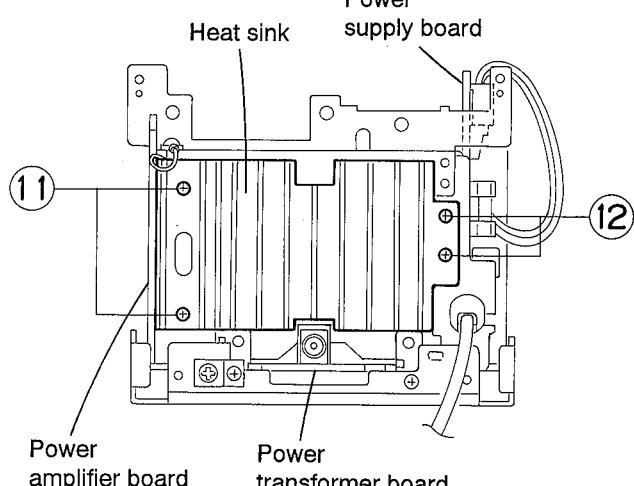
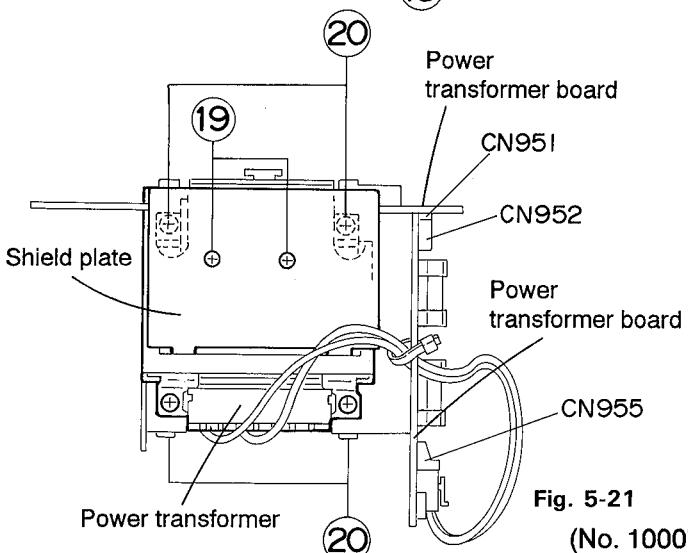

Fig. 5-16
Fig. 5-21
(See Figs. 5-16~19)
3. Removing the Transformer Unit (See Figs. 5-16, 20 and 21)
- After removing the two screws (17) retaining the power transformer unit from the rear side of the power supply unit and the two screws (18) from the bottom surface, dismount the entire power transformer unit from the bottom cover. Remove the heat sink, power amplifier P.C. board and bracket successively according to Steps 1 and 2 above.
- Remove the two screws (19) retaining the power transformer shield plate and the four screws (20) retaining the power transformer. After disconnecting the harness from the connector CN955 of the power supply P.C. board, remove the power transformer from the bracket (See Fig. 5-21).